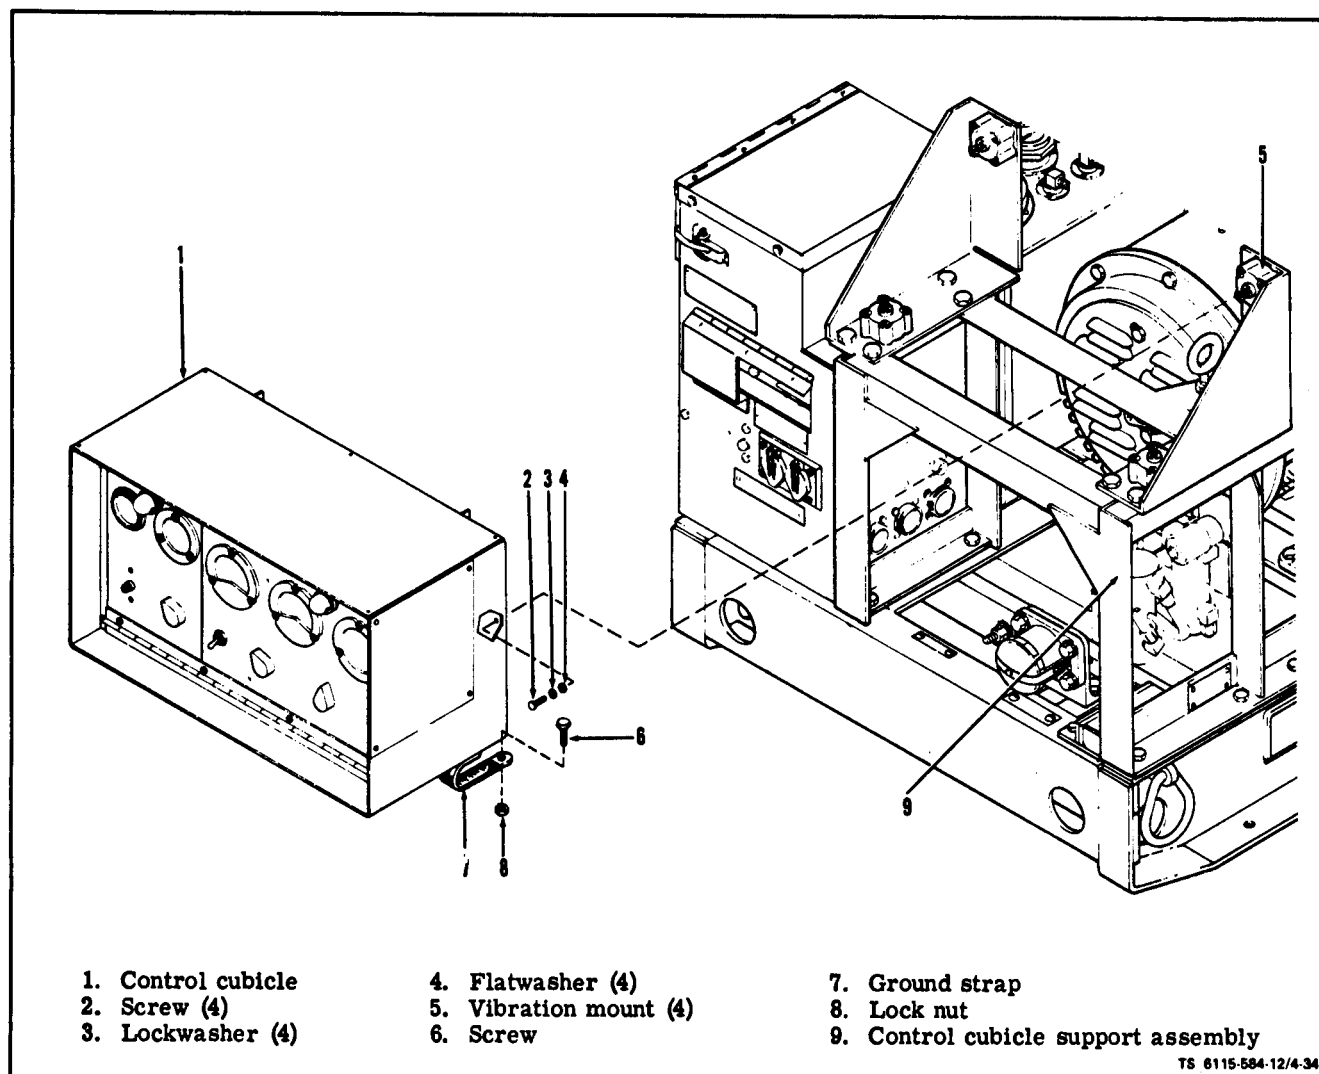

Figure 4-34. Removing Control Cubicle Support Assembly
(1) Control Cubicle. On ASK equipped generators, remove rear panel assembly (para. 5-7). Open air intake door. Tag and detach two connectors for wiring harness from control cubicle (see figure 1-2). Remove screw (6, figure 4-34) and nut (8) attaching ground strap to cubicle support frame. Remove four screws (2), lockwashers (3) and flatwashers (4) attaching control cubicle to vibration mounts (5) and remove cubicle (1).
(1) Control Cubicle. Attach control cubicle (1, figure 4-34) to four vibration mounts (5) with four screws (2), lockwashers (3), and flatwashers (4). Attach ground strap (7) to cubicle support frame with screw (6) and nut (8). Attach two connectors from wiring harness to connectors on back of control cubicle. On ASK equipped generators, install rear panel assembly (para. 5-7).